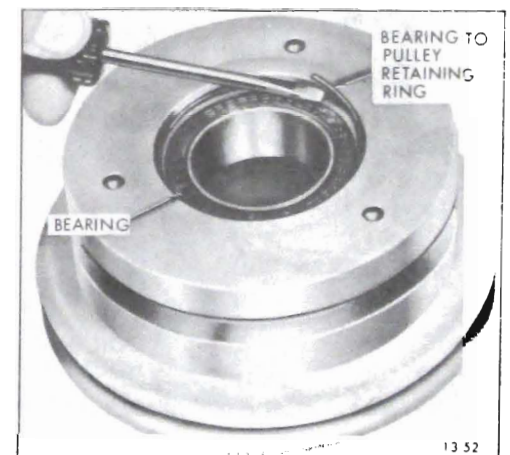

Figure 13-78 Removing Pulley Bearing Retainer
4. Remove bearing to pulley retaining ring with a small screwdriver (see Figure 13-78).
3. Lock bearing in position with bearing to pulley retainer ring (see Figure 13-78).